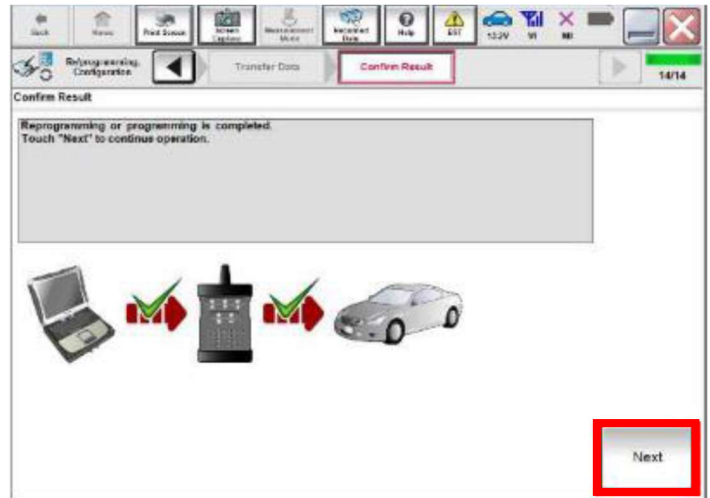

Figure 31
34. Select **Next**. (Figure 31)